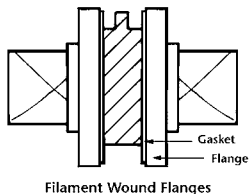

Figure 8.3
1) For unlined lug and wafer valves without integral seals, use filament wound flanges with no back-up rings or molded flanges with metal back-up rings. (See Fig. 8.3, 8.4, and 8.5)